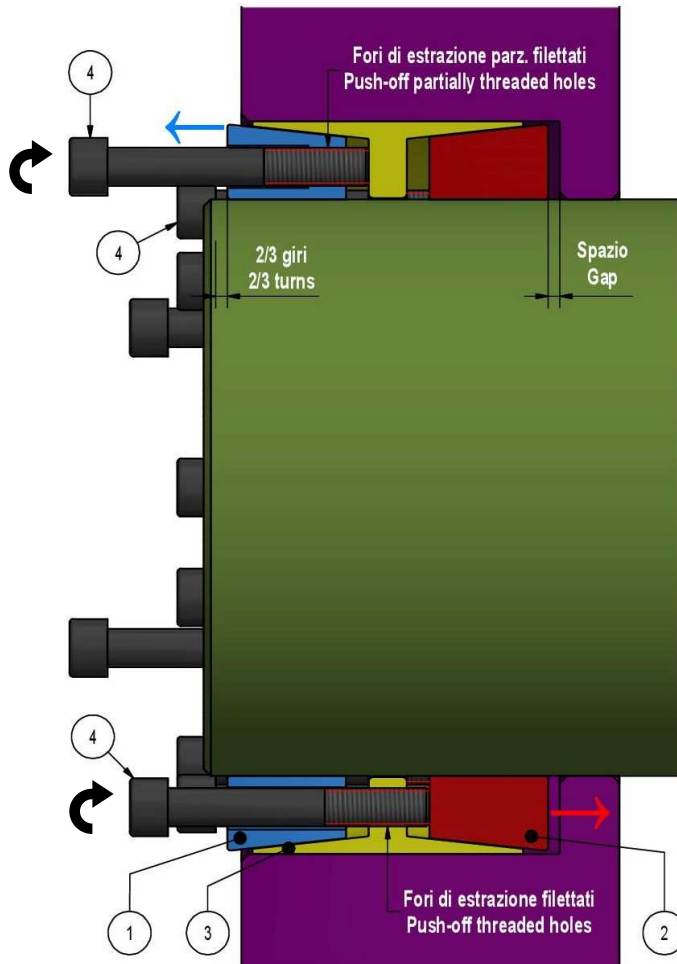

Fig. 2. Disengagement of thrust rings and positioning of Locking Assembly.
2. **For ease of installation, thrust rings shall be disengaged** (fig. 2). Loosen all screws by two/three turns; then transfer and hand tighten at least two screws into the push-off threaded holes in the front thrust ring and at least two screws into the push-off threaded holes in the outer ring, accessible via corresponding clearance holes in the front thrust ring.
3. Insert Locking Assembly into the hub bore and make it slide onto the shaft, making sure that connected components are positioned as required. **Thrust rings and outer ring shall be completely supported by shaft respectively hub bore** (fig. 2). At this point, relocate the screws used to disengage the thrust rings. Installation into hubs with shoulder requires a few mm's gap between rear thrust ring and shoulder (fig. 2).